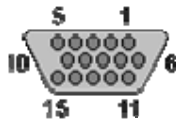

Figure 4-29: CN24 Connector
- CN Pinouts:** See **Table 4-31** and **Figure 4-29**